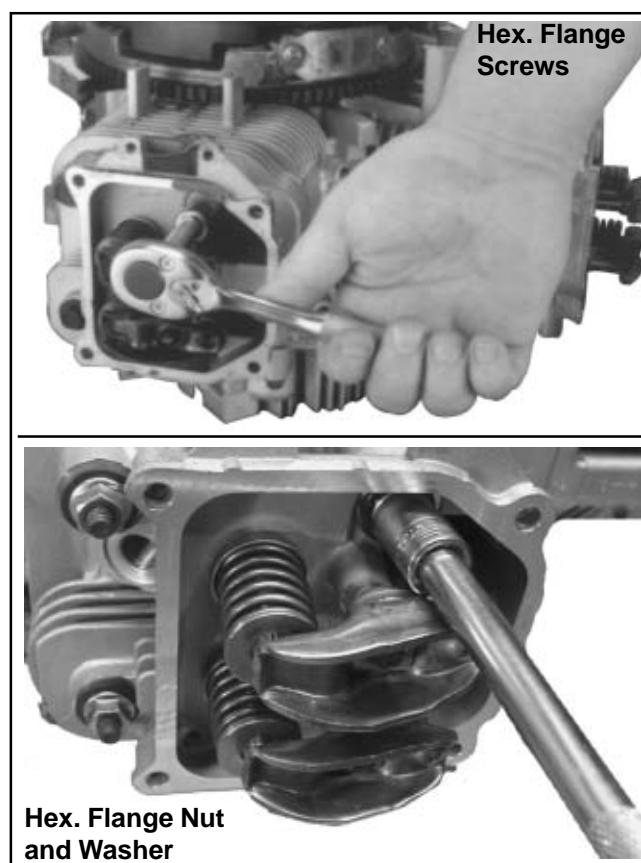

Figure 9-36. Removing Cylinder Head Fasteners.
1. Remove the four hex. flange screws or hex. nuts and washers securing each cylinder head. See Figure 9-36. Discard the screws or nuts and washers once removed. Do not reuse. Studs (if present) should only be removed if damaged or if cylinder reconditioning is necessary. Once removed, they must be replaced.
3. Carefully remove the push rods, cylinder heads, and head gaskets. See Figure 9-36.